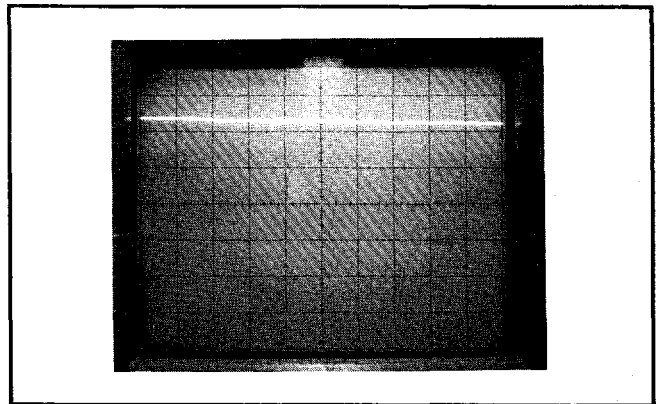

Figure 5-29. Narrow-Band Sweep, Leveled Power
1. On network analyzer, press Channel A .5 dB PER DIVISION. The trace should appear on the top half of the display (Figure 5-29).
- o. If the trace goes unleveled, adjust A10R62 until it becomes leveled (Figure 5-29).